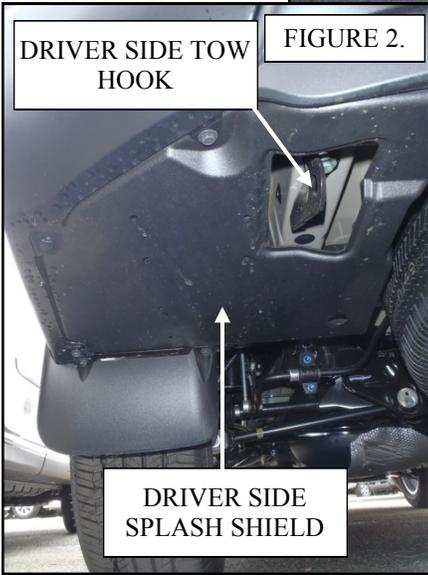

FIGURE 2.
2. The installation requires the removal of the two rear underbody splash shields located behind the rear wheel wells. There are various Phillips head and 10MM hex screws that need to be removed to remove the splash shields. These will be re-installed with minor trimming. *FIGURE 2 & 3*
3. The rear two tow anchors also are to be removed. These will not be re-installed. *FIGURE 2 & 3*